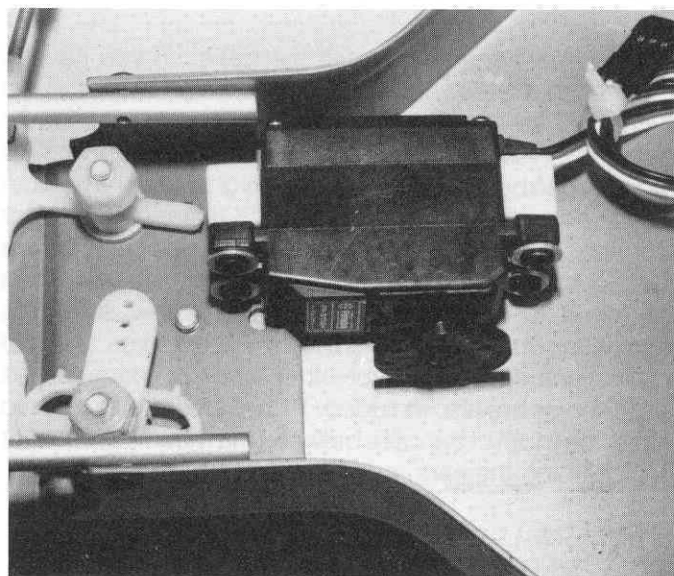
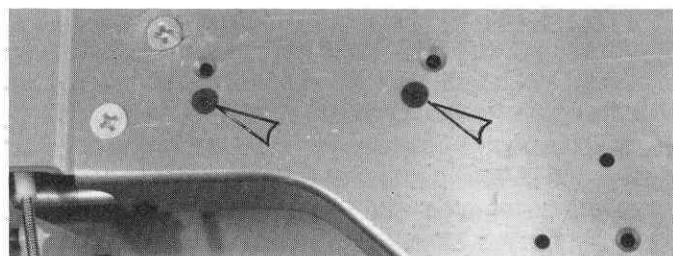

Fig. 142
Fig. 142a
□ **Fig. 142** Install the servo to chassis with the 2 flathead Allen screws shown in photo 141. You'll have to install 2 washers between the rear mount and chassis for proper alignment. Fig. 142a shows the proper holes to use with small servos.